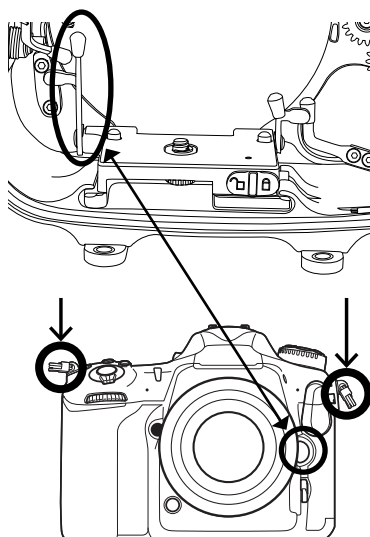

Figure 3
- Move the tray safety cursor toward the open padlock symbol; (fig. 3)